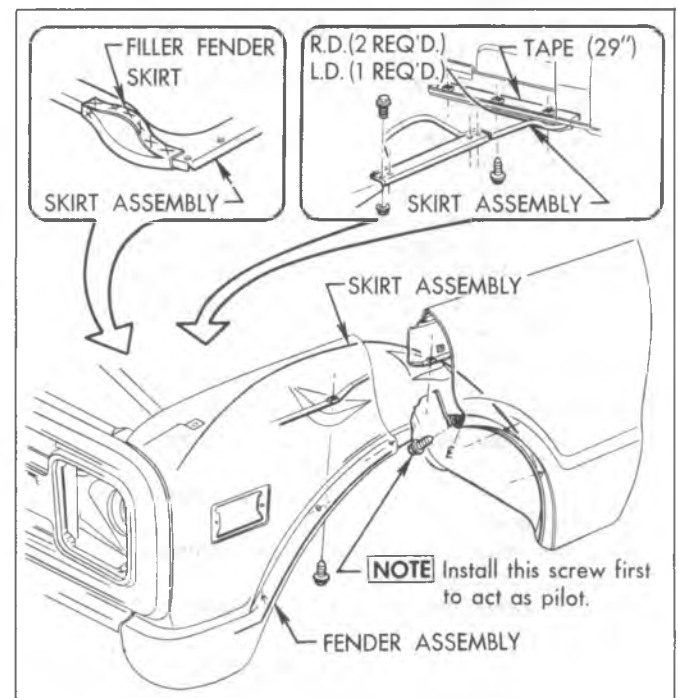

Fig. 9—Fender and Skirt Assembly—10-30 Series
3. Install combination bolt and flat washer assembly into each fender reinforcement while inserting shims required between fender reinforcement and body. (See Figure 9.)
FRONT FENDER AND SKIRT (FIGS. 9, 10, and 11)